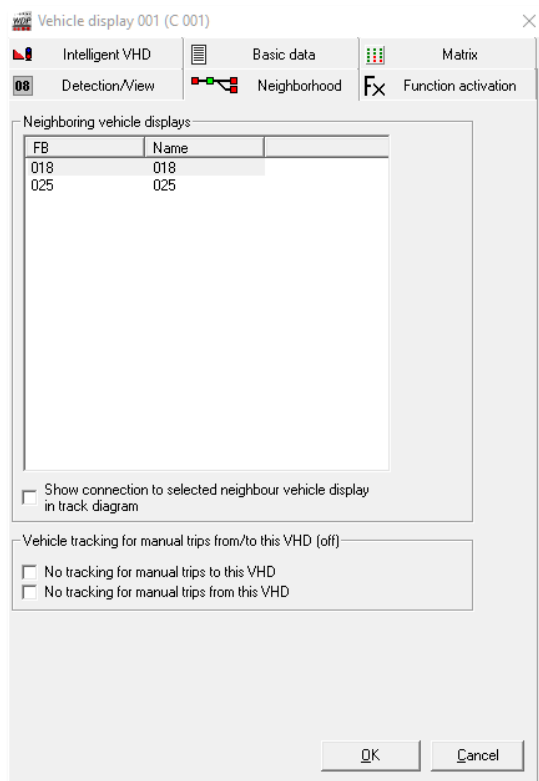

Fig. 6.22 VHD properties, the “Neighbourhood” tab
The example in the Fig. 6.22 shows two neighbouring vehicle displays for the VHD 001 (018 and 025). These are the train displays “Exit SBhf (018)” and “Entry SBhf (025)”.